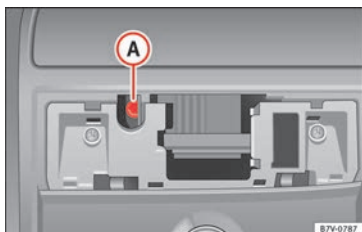

Fig. 16 Allen bolt to close the panoramic sliding sunroof
- Insert a standard 4 mm Allen key¹⁾ into the Allen bolt » **Fig. 16 A**.